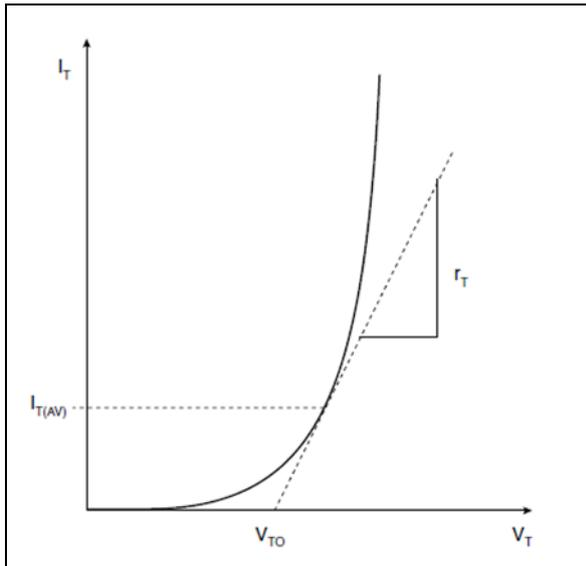

Fig. 1
1. As fig. 1, where the line is a tangent to the  $V_{TM}$  vs  $I_T$  curve at the average current rating.